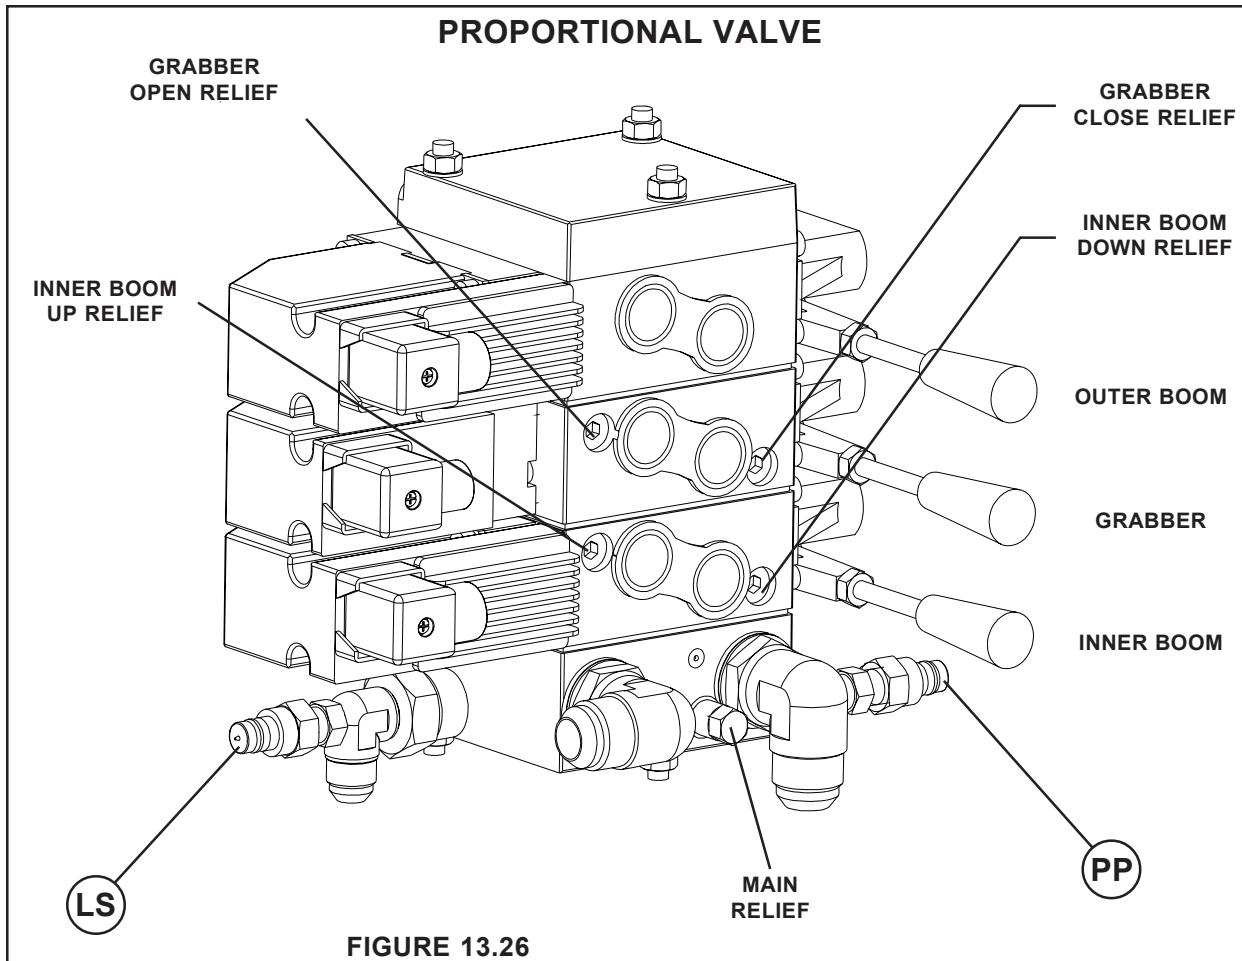

FIGURE 13.26
3. Adjust the work port at 3000 PSI, and then add 1/4 of a turn to the screw (figure 13.26).
5. Adjust the inner boom work port at 2100 PSI (figure 13.26).